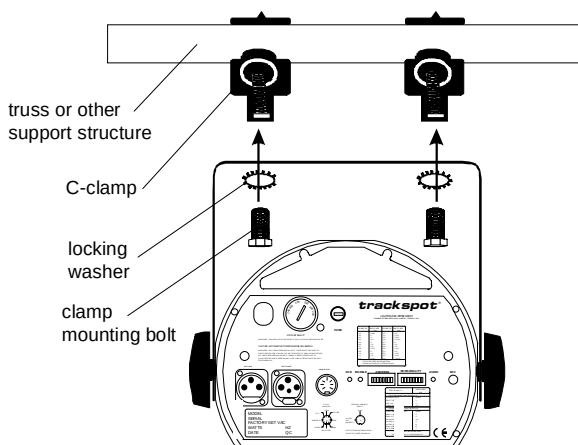

Figure 2-3. Attaching two C-clamps to the Trackspot yoke
4. Attach suitable clamp(s) through the holes on top of the yoke. If you are attaching one clamp, use the middle hole on the yoke. If you are attaching two clamps (as shown in Figure 2-3), attach one clamp to each of the two outer holes on the yoke. *Use locking washers when attaching the clamp(s) to the yoke.*